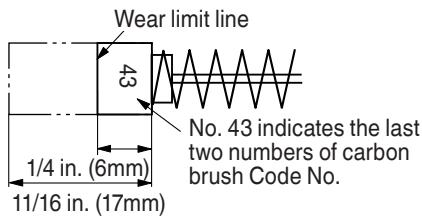
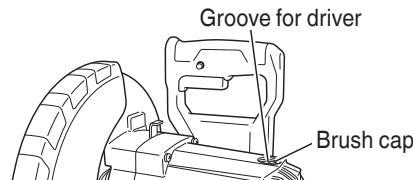

Fig. 31
Fig. 32
3. Inspecting the carbon brushes (Fig. 31 and Fig. 32)
Therefore, inspect the carbon brushes periodically and replace them when they have become worn to the wear limit line as shown in Fig. 31.
The carbon brushes can easily be removed after removal of the brush caps (see Fig. 32) with a slotted (minus) screwdriver.
When replacing the carbon brushes, use only metabo HPT carbon brushes having "43" in the last two digit of its Code No. (see Fig. 31).